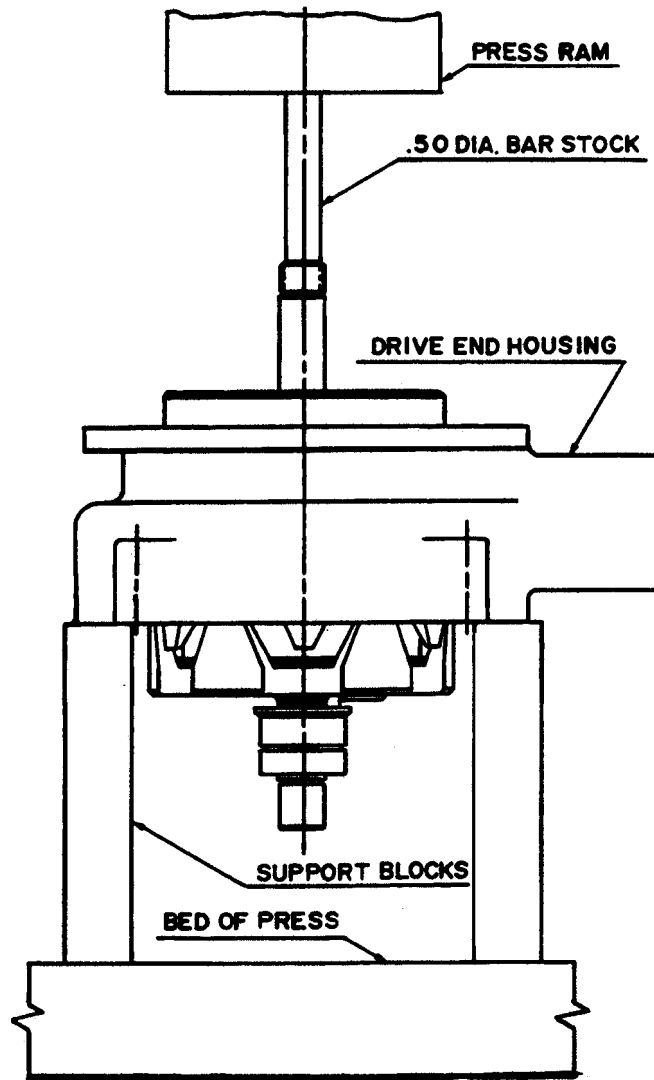

FIGURE 2
4. Remove woodruff key (10), "O" Ring (4), and seal (5) collar/spacer (6) as applicable. Discard "O" Ring.
5. Support the drive end housing (7) on an arbor press table and carefully press the rotor shaft (11) out of the drive end bearing (3). Take care not to damage the threads or drop the rotor. (See Figure 2.)